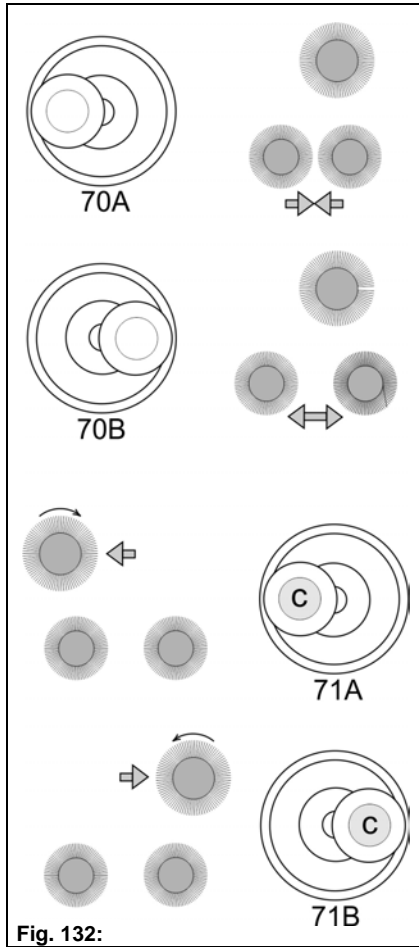

Fig. 132:
Press the button **Fig. 132-C** and simultaneously move the joystick **Fig. 132-71 (A)** to the left.
Press the button **Fig. 132-C** and simultaneously move the joystick **Fig. 132-71 (B)** to the right.